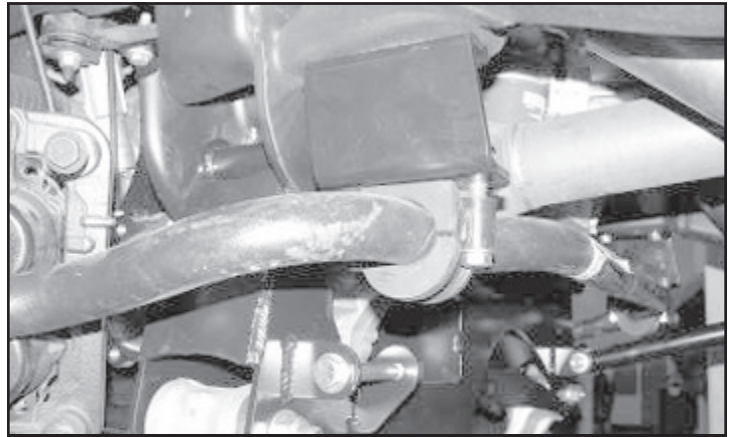

FIGURE 54 - STEP 40
40. Locate FT20312 (Drv), FT20318 (Pass) Sway Bar Frame Bracket, and the supplied 7/16"x 2 1/4" and 10mm x 30mm hardware. Position the frame bracket on the frame so that sway bar will be farther back from the suspension and attach with the 10mm hardware. Locate the factory sway bar with the factory mounts and attach to the new brackets with the 7/16" hardware and torque to 83 ft-lbs. and the 10mm hardware to 58 ft-lbs. **SEE FIGURE 54**